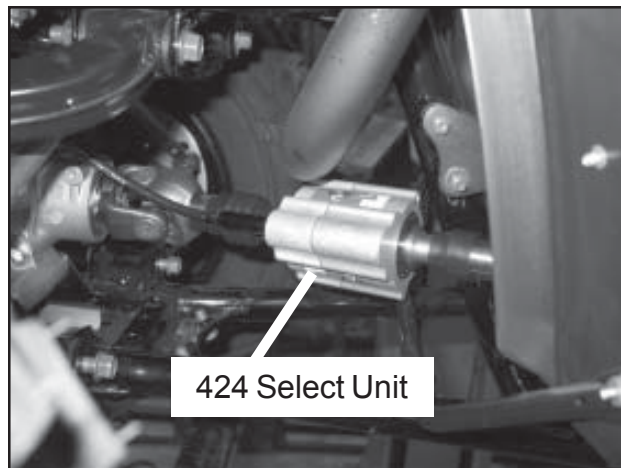

Figure 8 424 Select Unit
4. Install the 424 Select unit onto the ATV in the same location as the removed prop-shaft, **Figure 8**. Align the 424 Select unit into the engine side U-joint first. Next, pull the front differential forward so that there is enough room to slide the unit onto position. It may be necessary to rotate the differential slightly until the splines line up.